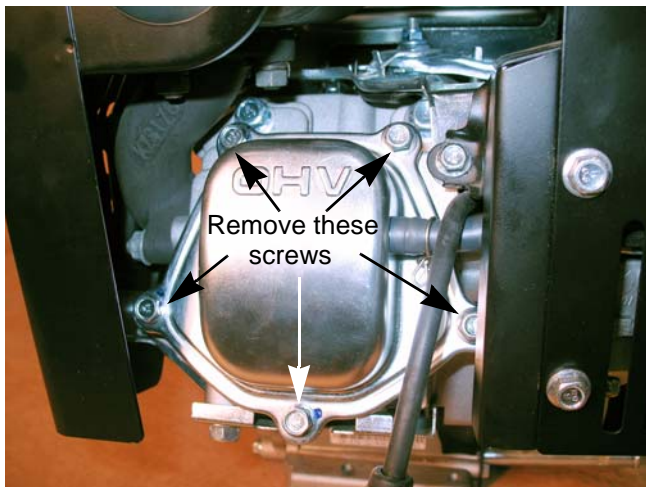

Figure 5.8
3. Remove the five screws that hold the valve cover to the cylinder head using a 10mm wrench. See Figure 5.8.